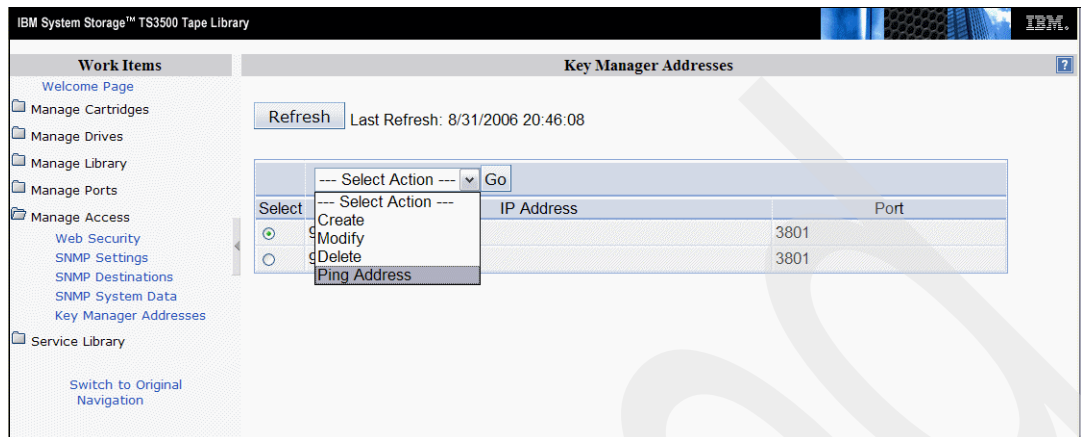

Figure 6-72 Verifying key manager connection
- To test the connection between the TS3500 tape library system and the keystore, select the key manager address and choose **Ping Address** in the Select Action menu, and click **Go** (Figure 6-72).